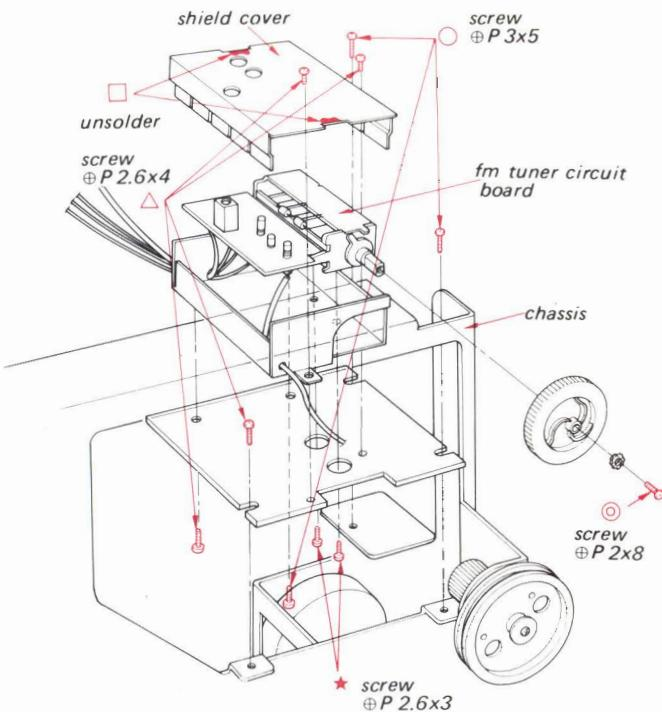

Fig. 2-7
2. Remove the seven screws marked  $\circ$  and  $\triangle$  in Fig. 2-7.
6. Take out the shield cover and fm front end circuit board as illustrated in Fig. 2-7.